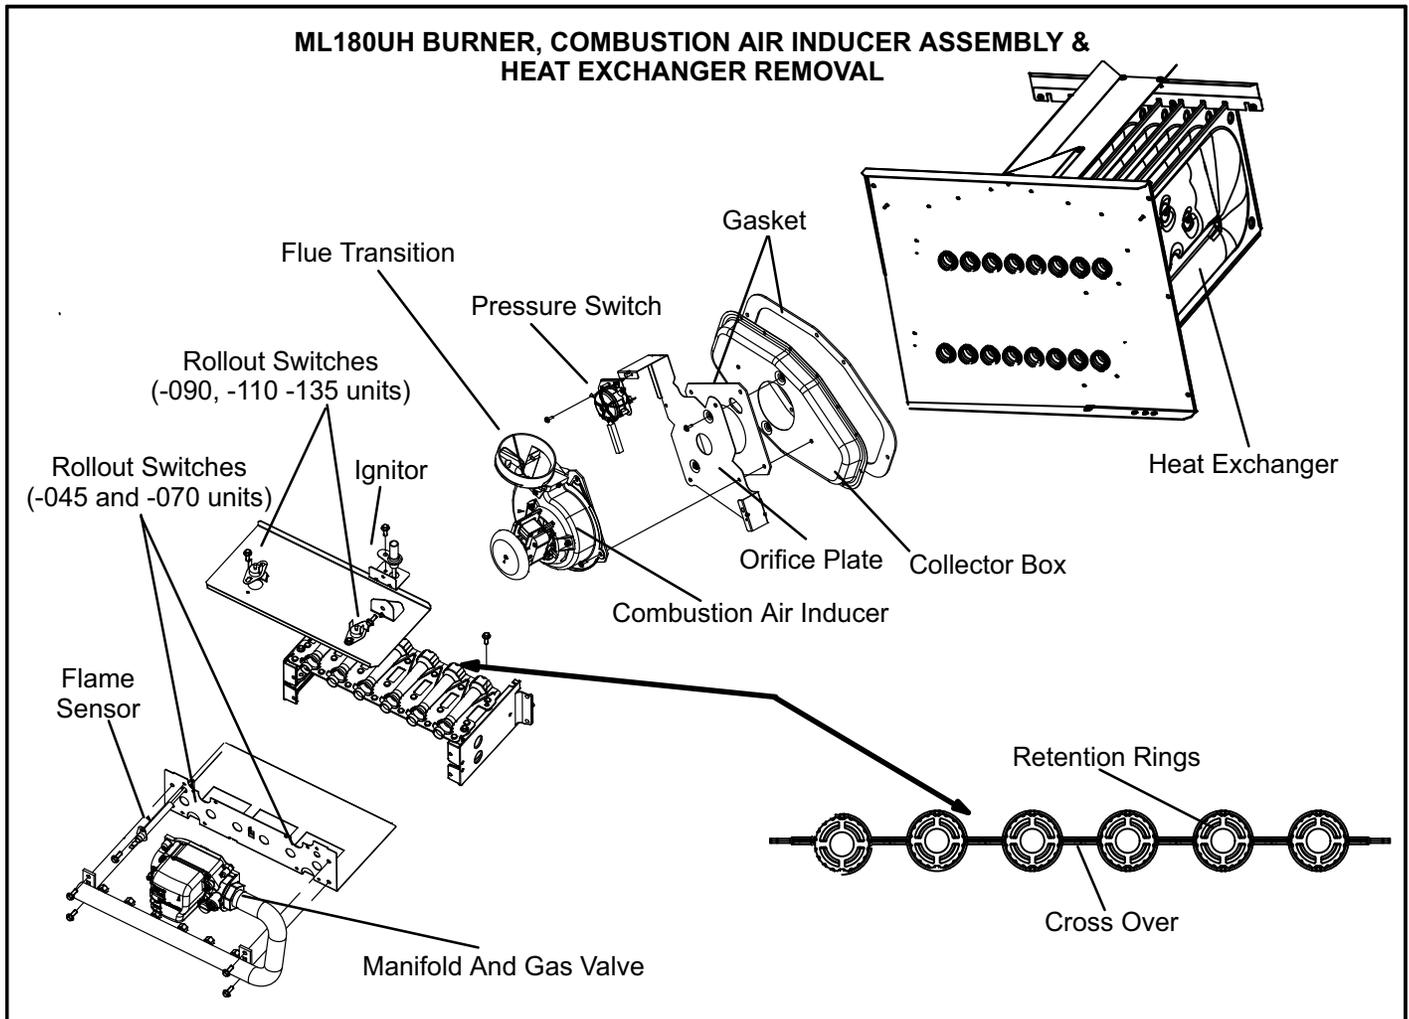

FIGURE 21
- 12 - To clean burners, run a vacuum cleaner with a soft brush attachment over the face of burners. Visually inspect inside the burners and crossovers for any blockage caused by foreign matter. Remove any blockage. Figure 21 shows burner detail.